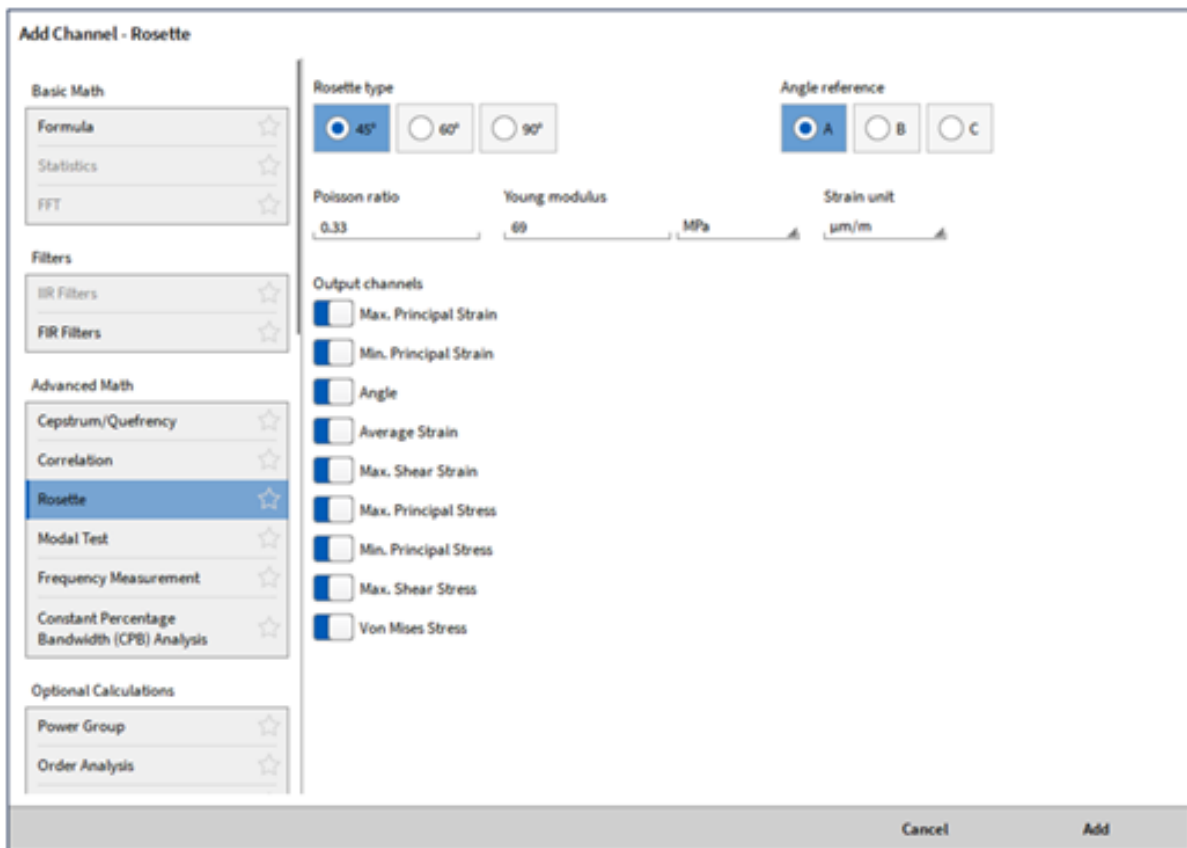
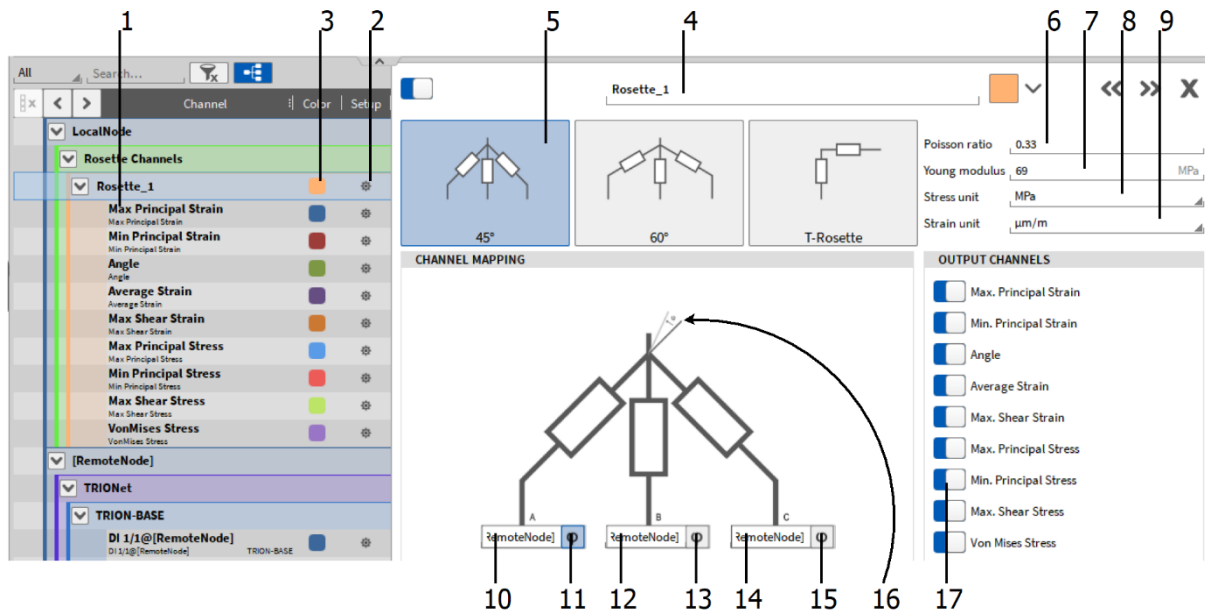
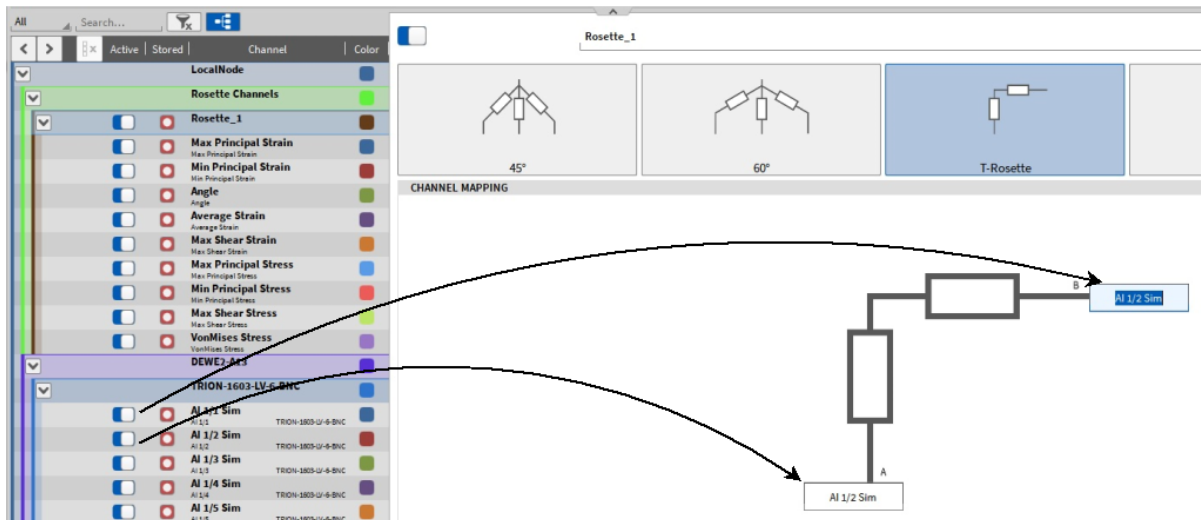

Fig. 7.109: Pop-up window for creating a Rosette calculation
Fig. 7.110: Rosette channel setup – overview
Fig. 7.112: Channel assignment in the rosette channel setup
For creating a Rosette channel, the user must click on the *Add* button in the lower left corner (marked red in Fig. 7.48) and a window will appear (see Fig. 7.109). To create a Rosette channel, select *Rosette*. After clicking on the OK button, a Rosette main channel (*Rosette\_1* in Fig. 7.110) with its Sub channels (*Max Principal strain* to *VonMises Stress* in Fig. 7.110) is added to the channel List. A click on the gear button of the main rosette channel will open the Rosette settings to perform changes afterwards (see Fig. 7.110).
The channel assignment can be edited after creating the Rosette calculation in the Channel setup of the main channel (see ⑩ in Fig. 7.110) by dragging and dropping the desired channel from the Channel List on the left-hand side to the individual input channel of the rosette calculation (see Fig. 7.112).
The sub channels (see ⑪ in Fig. 7.110) resulting from the rosette calculation have a Channel Setup that can be accessed via the Gear Button in the Channel List as well. But only the Channel scaling can be edited there.